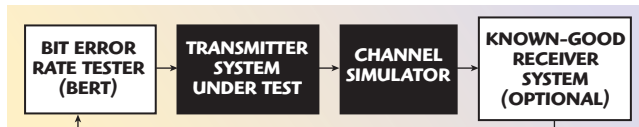

Fig. 5 Channel simulator configuration for transmitter testing.
**Figure 5** shows a similar setup for transmitter system testing. In either test setup, receivers or transmitters under test may be used for flying or ground-based applications. As well, up-converters, down-converters and modems may be necessary in an actual test setup, depending on available equipment and receiver and transmitter characteristics.